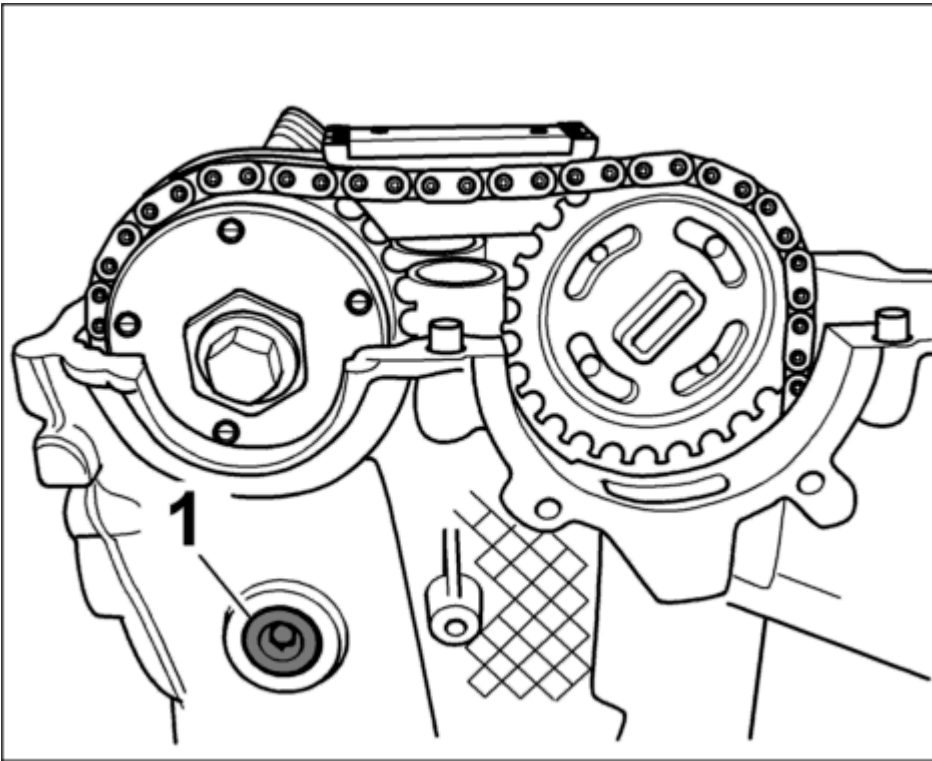

Fig. 171: Guide rail screw for cylinders 1-3
1. Unscrew M6 threaded bolt (hexagon socket) for guide rail (flywheel side) -1- . See **Fig. 171**.